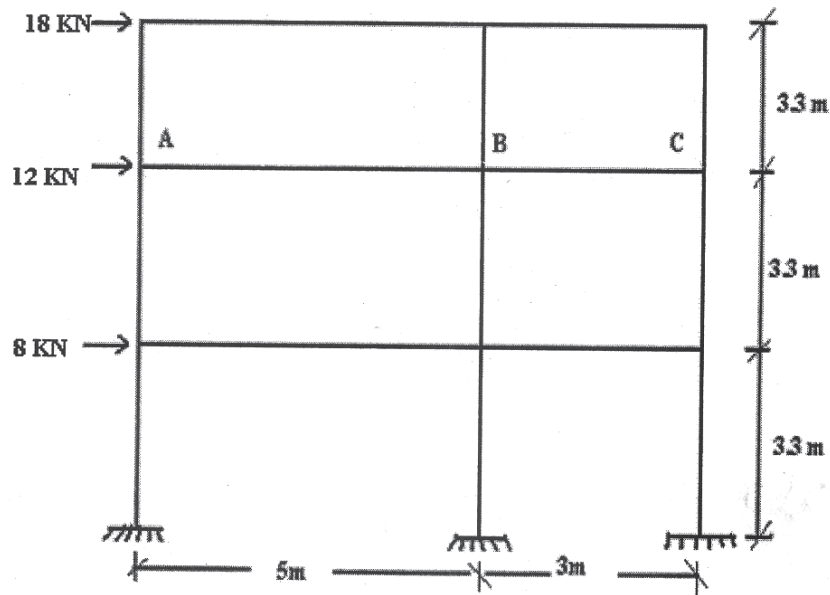

Fig. 1
- Q5) a)** Fig.1 shows an intermediate frame of multistoried building the frames are spaced at 3.5 m centre to centre analyze the rigid jointed frame taking live load as 3.5 KN/m^2 and dead load as 3 KN/m^2 for panel AB and BC respectively. The self weight of beam AB is taken as 4 KN/m and for BC as 3.0 KN/m . The relative stiffness of all members is same. Use Portal method for horizontal load and Proper Substitute frame for vertical loading. Design the Beam ABC for combined effect of horizontal and vertical loading using 20% redistribution of moments for vertical load moments. Use M20 and Fe500. [25]